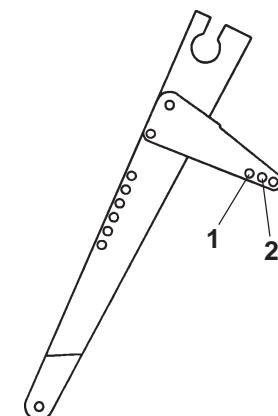

Figure 11-89. CS4, CS6. Spring Hole Position.
- Connect the governor spring to the arm of the governor lever and into the slot in the throttle lever. See Figures 11-89, 11-90, and 11-91 according to model number for proper assembly if necessary.